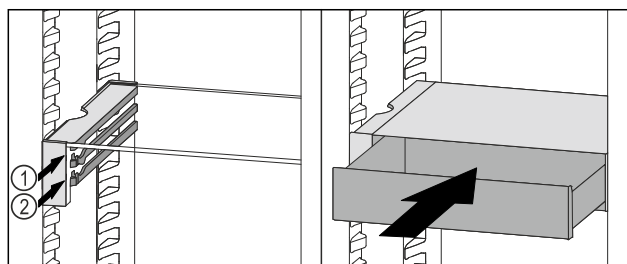

Fig. 114
- Place the VarioSafe drawer behind the stoppers on desired rib *Fig. 114 (1)* or *Fig. 114 (2)*.